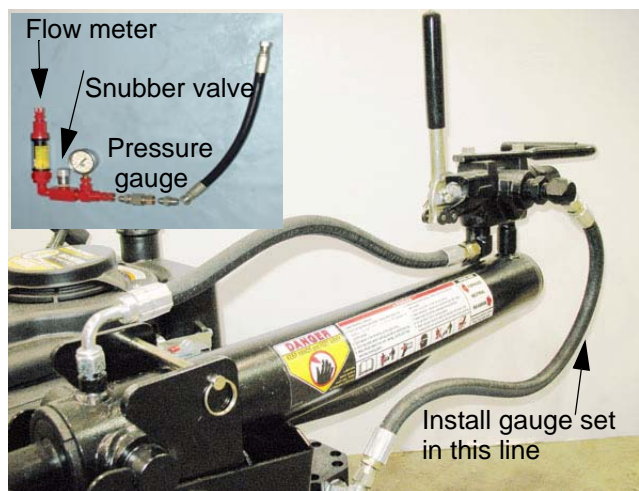

Figure 3.14
5.8. To test the pump: See Figure 3.14.